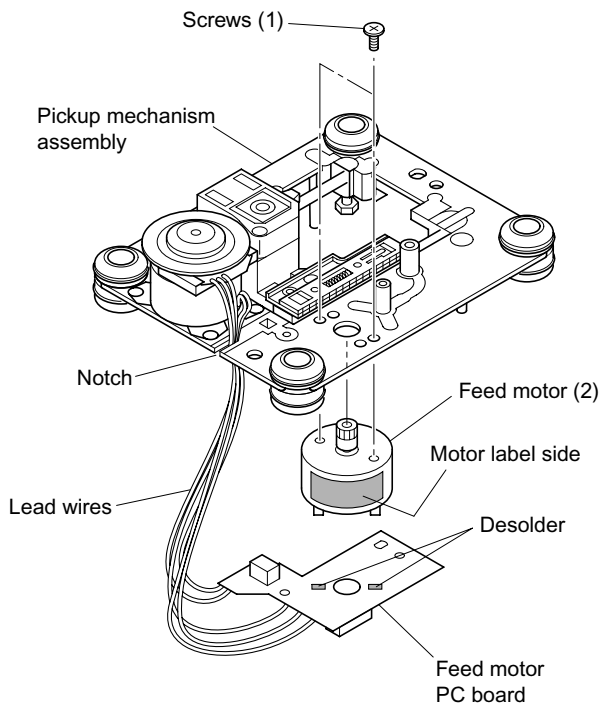

Fig. 2-1-21
1. Remove the gear B assembly and the gear A. (Refer to item 1-3-6.)
2. Remove two screws (1) and remove the feed motor (2) (with the feed motor PC board (3) attached). (Refer to Fig. 2-1-21.)
3. Desolder the terminals of the feed motor (2) and remove the feed motor PC board (3).
- When replacing the loading motor, meet the polarity phase of the terminals. (Mount the motor with the label positioned as shown in Fig. 2-1-21.)